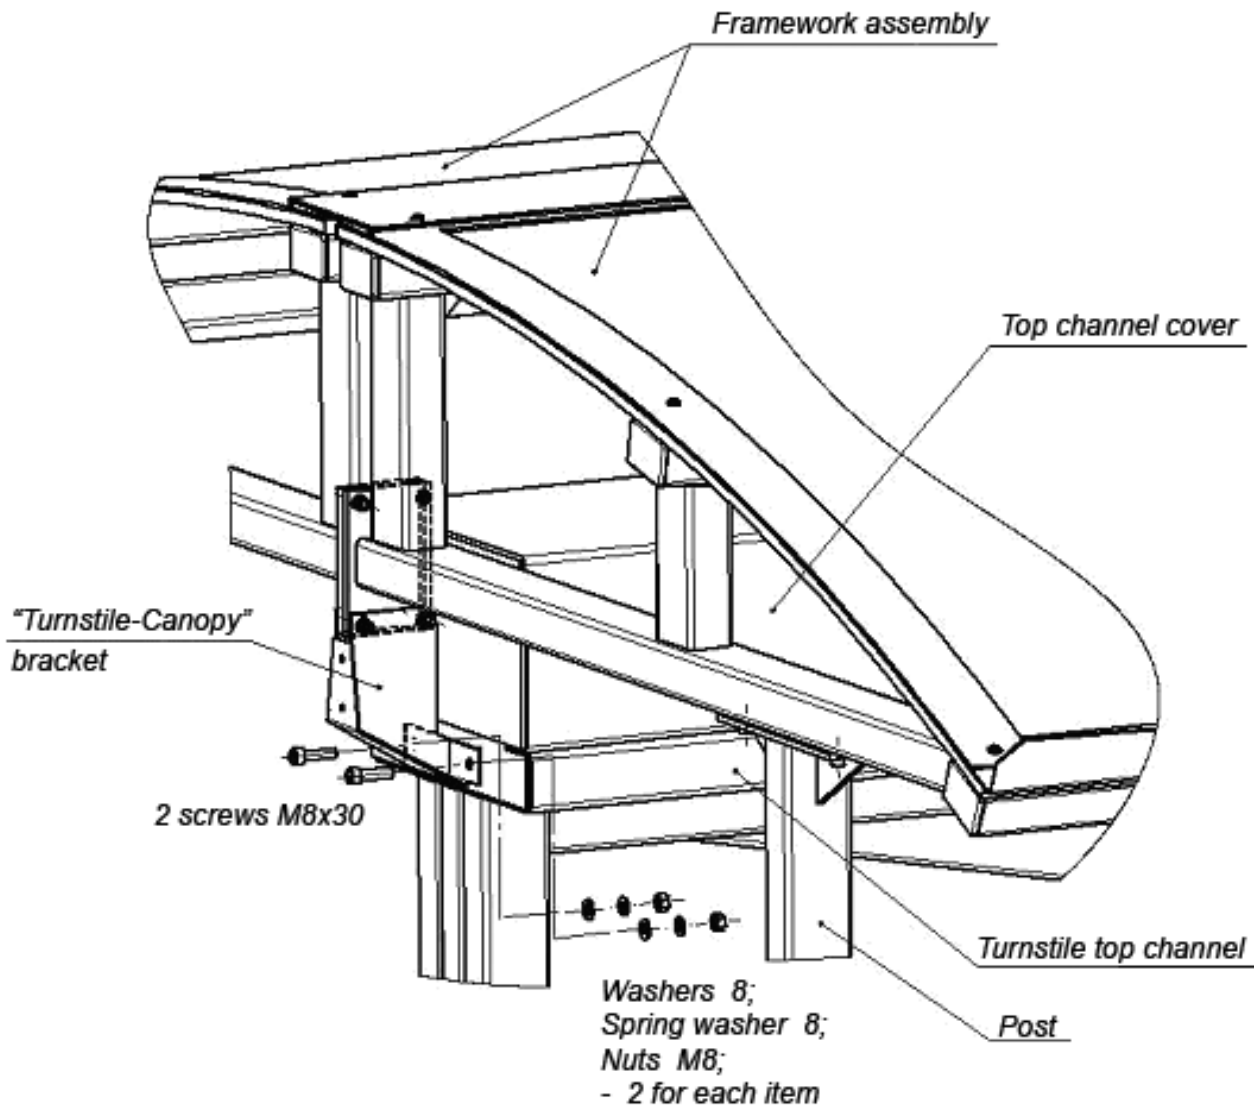

Fig. 8. Fixing the «Turnstile-Canopy» bracket to the canopy jointing flanges (6) and the turnstile top channel*
- install the bracket on the flanges and fix it with the earlier undone screws (Fig. 8);
- put two screws M8x30 through the holes in the bracket and fasten them by nuts with washers from inside the top channel, as shown in Fig. 8;